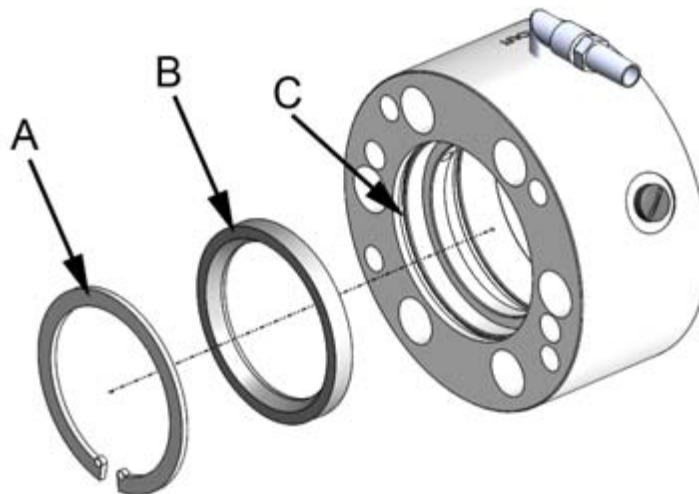

Figure 18. Installing the shaft seal in the bearing housing cover
5. Lubricate the inner rim of the bearing housing cover and press the shaft seal (figure 18, point B) into the bearing housing cover, making sure that it is correctly oriented.
6. Place the retainer ring (figure 18, point A) into to the groove on the inner rim of the bearing housing cover (figure 18, point C).